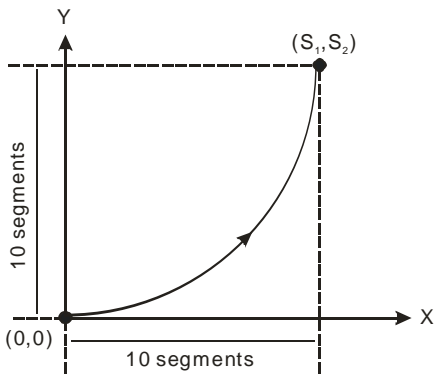
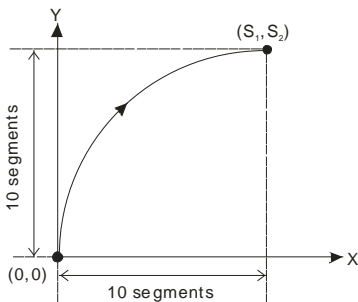
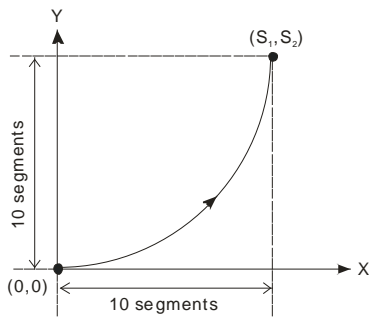

Figure 3
Figure 1
Figure 3
- The lower 16 bits of S (settings of direction and resolution): K0 refers to clockwise 10-segment (average resolution) output; K2 refers to clockwise 20-segment (higher resolution) output and a 90° arc can be drawn (see figure 1 and 2). K1 refers to counterclockwise 10-segment (average resolution) output; K3 refers to counterclockwise 20-segment (higher resolution) output and a 90° arc can be drawn (see figure 3 and 4).
4. The lower 16 bits of **S** (settings of direction and resolution): K0 refers to clockwise 10-segment (average resolution) output; K2 refers to clockwise 20-segment (higher resolution) output and a 90° arc can be drawn (see figure 1 and 2). K1 refers to counterclockwise 10-segment (average resolution) output; K3 refers to counterclockwise 20-segment (higher resolution) output and a 90° arc can be drawn (see figure 3 and 4).